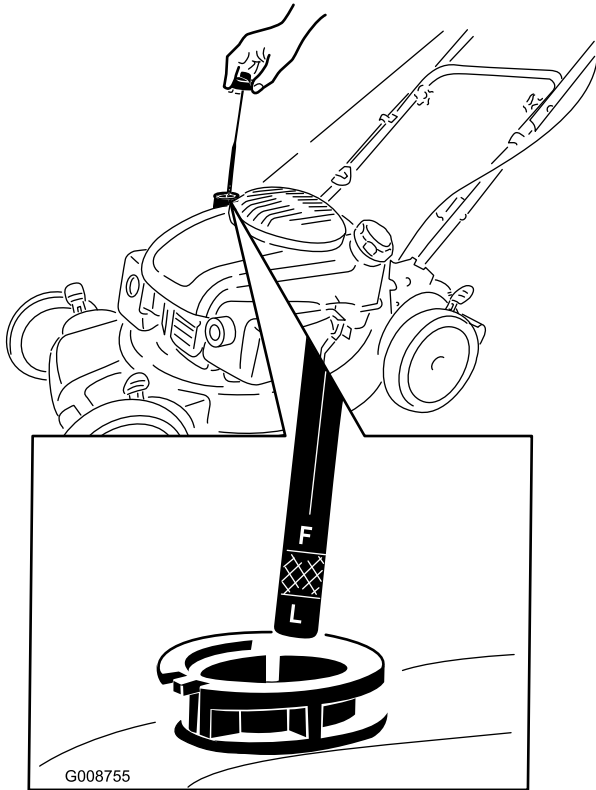

Figure 9
1. Remove the dipstick, wipe it clean, and insert it into the oil filler neck, but **do not** screw it in (Figure 9).
2. Remove the dipstick and check the oil level (Figure 9). If the oil level is below the Add mark on the dipstick, **slowly** pour oil into the oil fill tube to raise the oil level to the Full mark on the dipstick. Wait 3 minutes after adding oil to check the oil level with the dipstick. **Do not overfill.** (Max. fill: 22 oz. (0.65 l), type: 10W-30 or SAE 30 detergent oil with an API service classification of SJ or higher.)